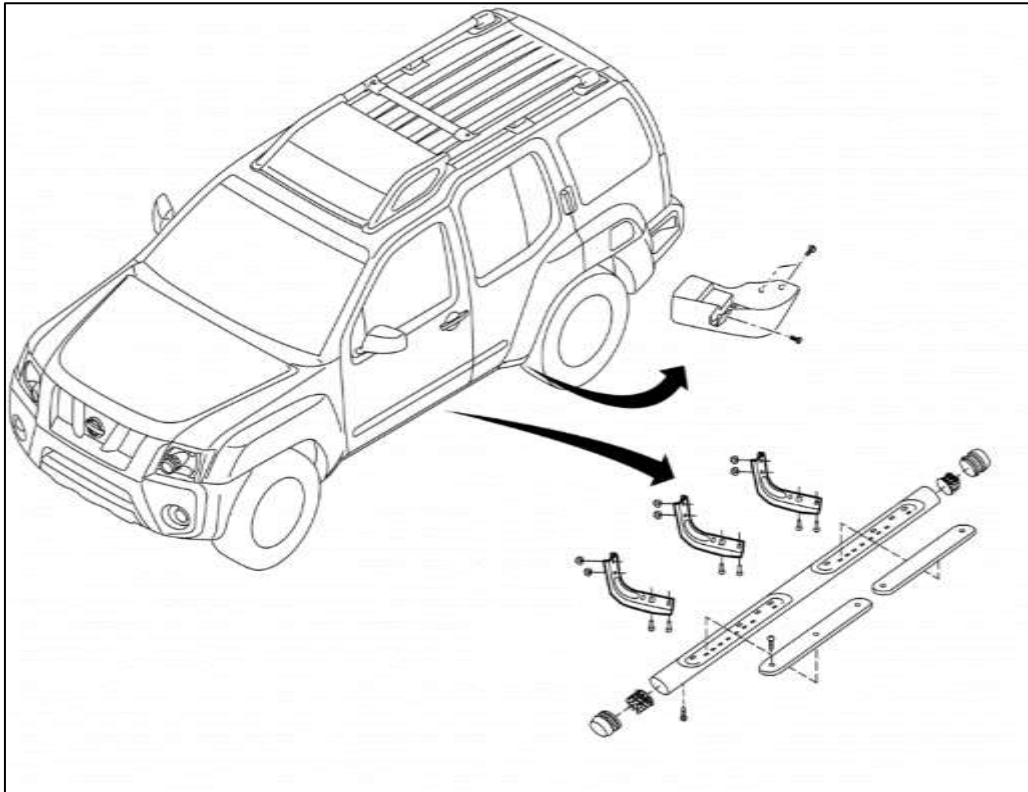

Figure 7
12. Remove the OE Running Boards if equipped. This step is not required but will ease the raising and lowering of the vehicle. Use *Figure 7* for reference for fastener locations.